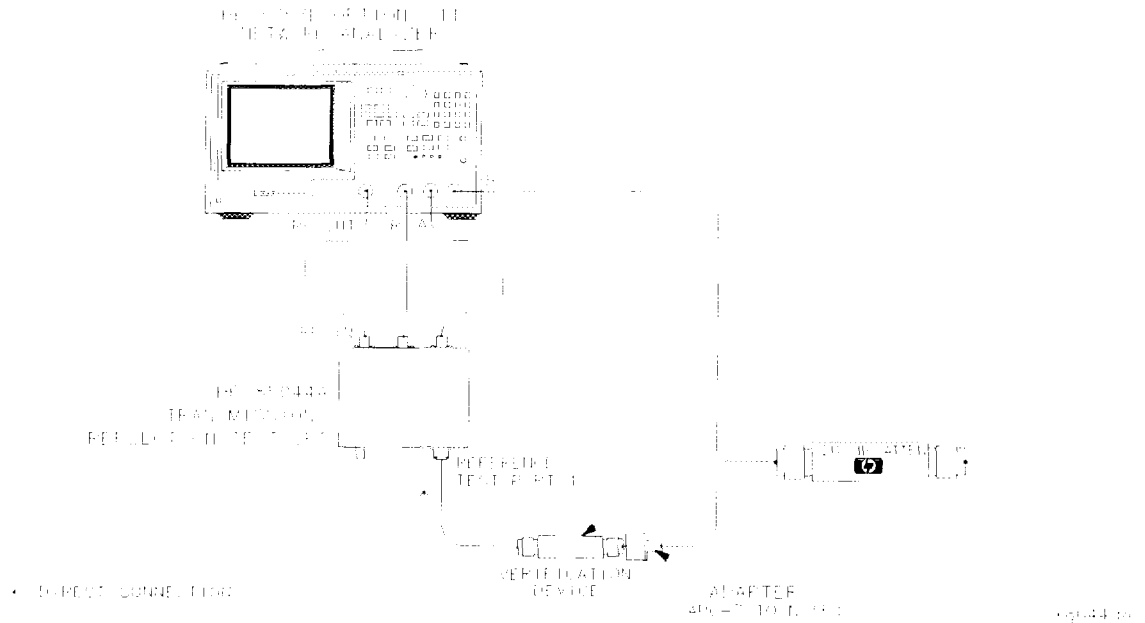

Figure 5-11. Connections for the 20 dB Attenuator
- 2 At the prompt, connect the 20 dB attenuator (supplied in the verification kit) as shown in Figure 5-11.